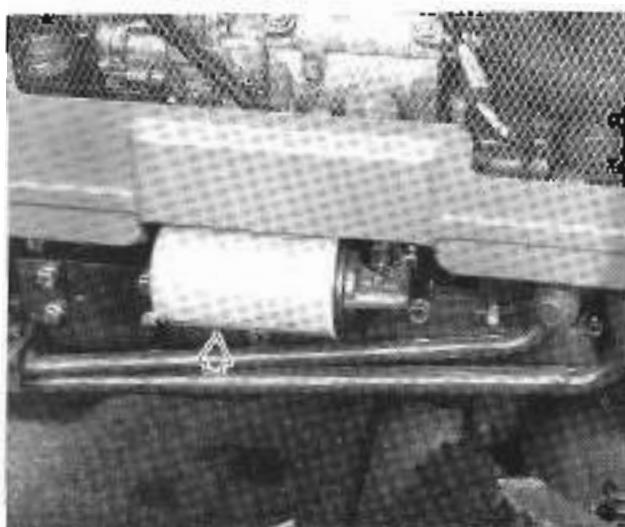

Figure 37 - Engine Oil Filter
2. REMOVE THE OIL FILTER (FIGURE 37), DRAINING THE USED OIL. HOLD THE CARTRIDGE PLUG IN OVER THE FILTER. DISPOSE OF FILTER.